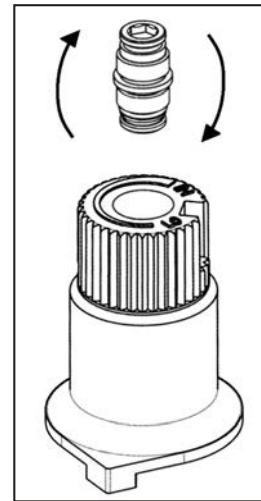

Figure 12: Flip valve screw.
- e) Flip the screw (refer to Figure 12).
- f) Using the Allen wrench as shown in Figure 12, rotate the screw clockwise. **WARNING!** Do not over tighten the screw.